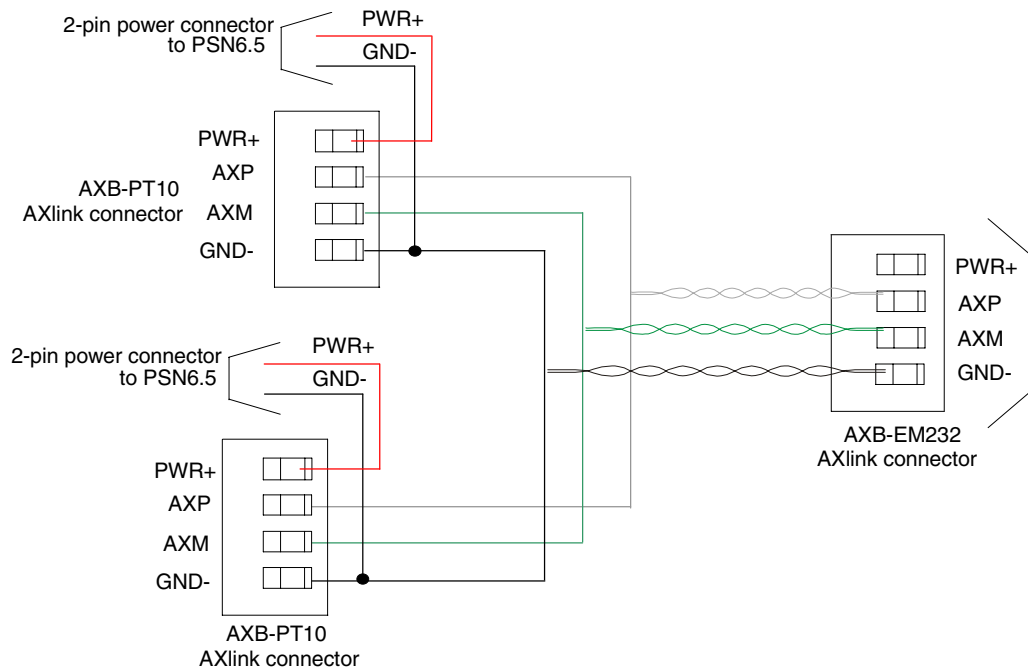

FIG. 12 AXlink connector split cable wiring diagram
To use the AXlink 4-pin connector for data communication from the AXB-EM232 to both AXB-PT10s. The outgoing wires from these devices must be joined at the terminal AXlink connector on the AXB-EM232. FIG. 12 shows how an AXlink cable can be split-off into two cables; one end going to both AXB-PT10s and the other to the AXB-EM232.
4. Place each twisted pair into its respective clamp position on the AXB-EM232 AXlink connector. Refer to FIG. 12 for more information.